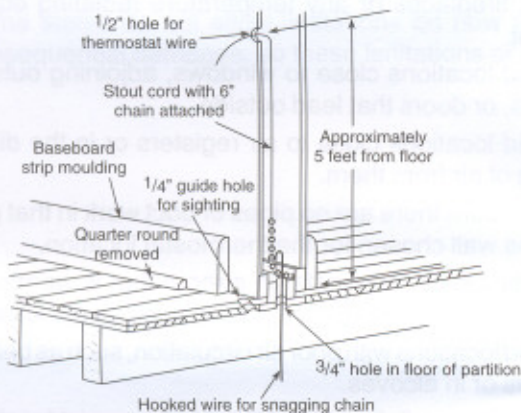

Figure 2. Routing thermostat wires
3. Probe for obstructions in partition before drilling $\frac{1}{2}$ " hole in wall at selected location. Take up quarter round and drill a small guide hole for sighting (see fig. 2). From basement, drill $\frac{3}{4}$ " hole in partition floor next to guide hole. In houses without basements, drill $\frac{1}{2}$ " hole through ceiling and into partition from above (see fig. 2).
3. Pull wires through the opening in the thermostat base and connect wires beneath the terminal screws (see Fig. 2 & 3).